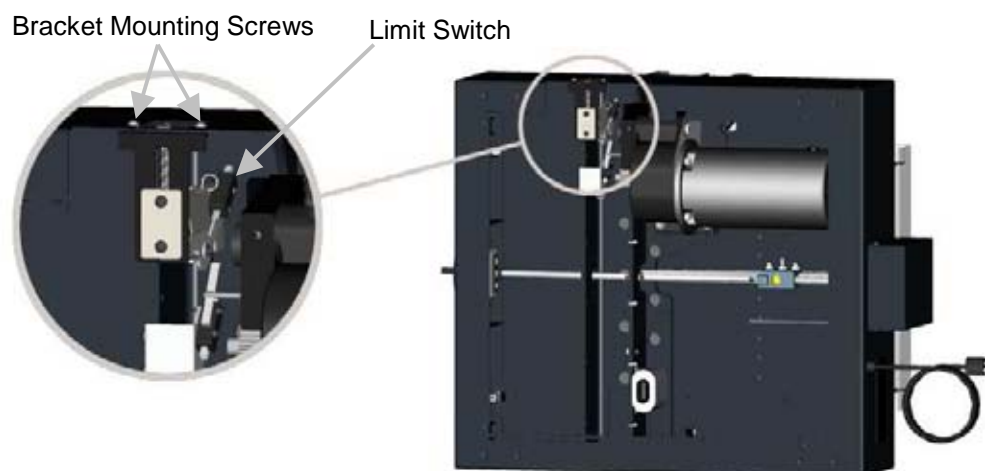

Figure 20
3. Check all bracket and switch hardware to make sure they are tight (Figure 20).